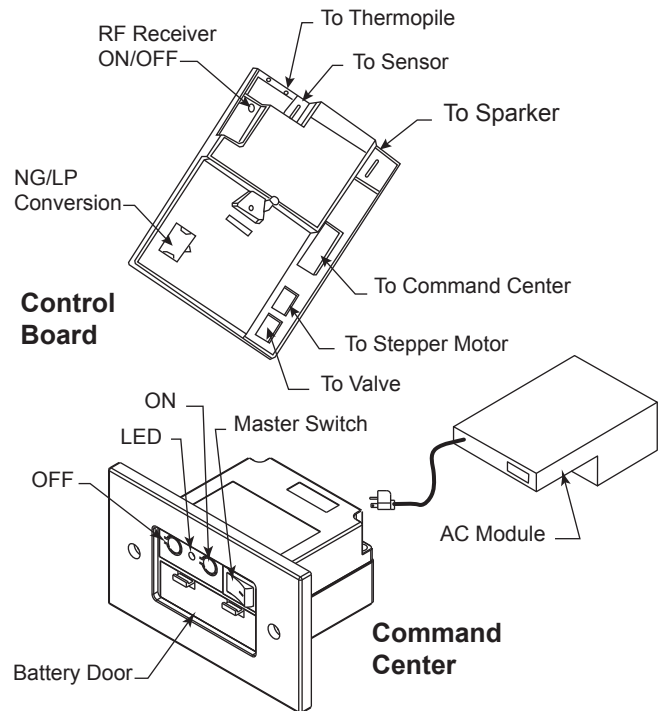

Figure 33 - Signature Command System Components
1. The RF receiver button located on the Control Board must be in the on position before the learn function can begin. Use paper clip to depress button. One beep for RF receiver ON or two beeps for RF receiver OFF will be given as confirmation. Refer to *Figure 33* for location.